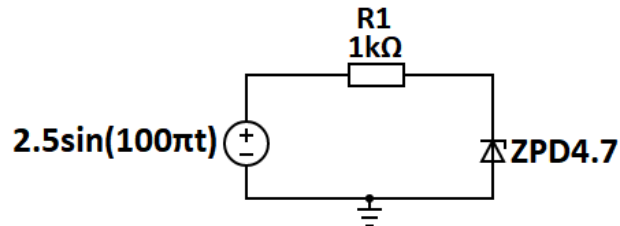

Fig. 4: Zener Diode Analysis Circuit
1) *Circuit Diagram of Task 2:* The circuit shown in Figure 4 consists of a Zener diode, a resistor, and a sinusoidal voltage source. This setup will be used to observe the diode's V-I curve and analyze its reverse breakdown behavior.
- 1) **Circuit Assembly:** Assemble the circuit as shown in Figure 4. Replace the standard diode from Task 1 with a Zener diode (e.g., 1N4733). Ensure all components, including the $1\text{ k}\Omega$ resistor, are correctly connected as per the diagram. Double-check the polarity of the Zener diode.